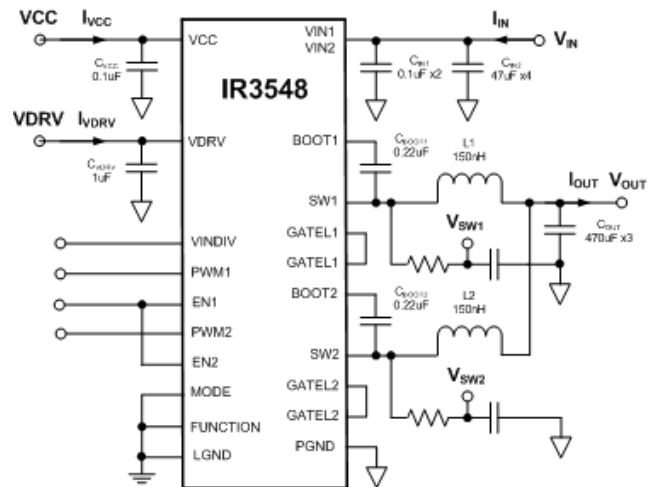

Figure 34: IR3548 Power Loss Measurement
Circuit of Figure 34,  $V_{IN}=12V$ ,  $V_{OUT}=1.2V$ ,  $f_{SW} = 400kHz$ ,  $L=150nH$  ( $0.29m\Omega$ ), Two Phases, Dual Driver, PWM Mode,  $V_{CC}= 5V$ ,  $V_{DRV}=7V$ ,  $T_{AMBIENT} = 25^{\circ}C$ , no heat sink, no air flow, 8-layer PCB board of 3.7”(L) x 2.6”(W), no PWM controller loss, no inductor loss, unless specified otherwise.
Circuit of Figure 34,  $V_{IN}=12V$ ,  $V_{OUT}=1.2V$ ,  $f_{SW} = 400kHz$ ,  $L=150nH$  (0.29mΩ), Two Phases, Dual Driver, PWM Mode,  $V_{CC}= 5V$ ,  $V_{DRV}=7V$ ,  $T_{AMBIENT} = 25^{\circ}C$ , no heat sink, no air flow, 8-layer PCB board of 3.7”(L) x 2.6”(W), no PWM controller loss, no inductor loss, unless specified otherwise.
The two-phase IR3548 efficiency and power loss measurement circuit is shown in Figure 34.